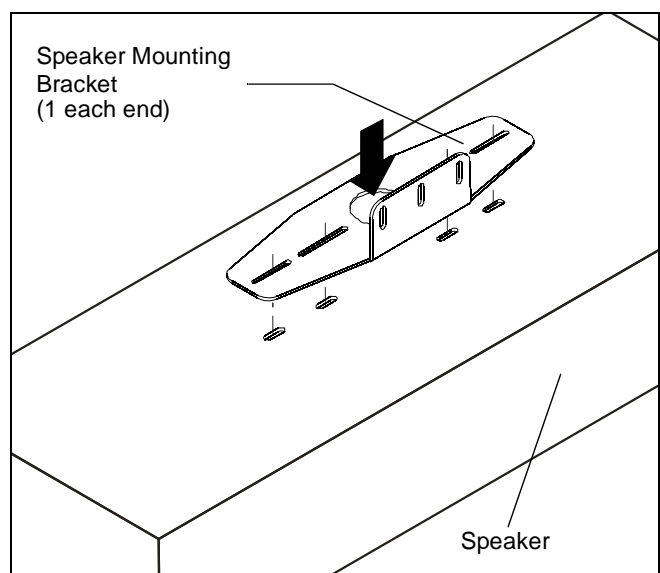
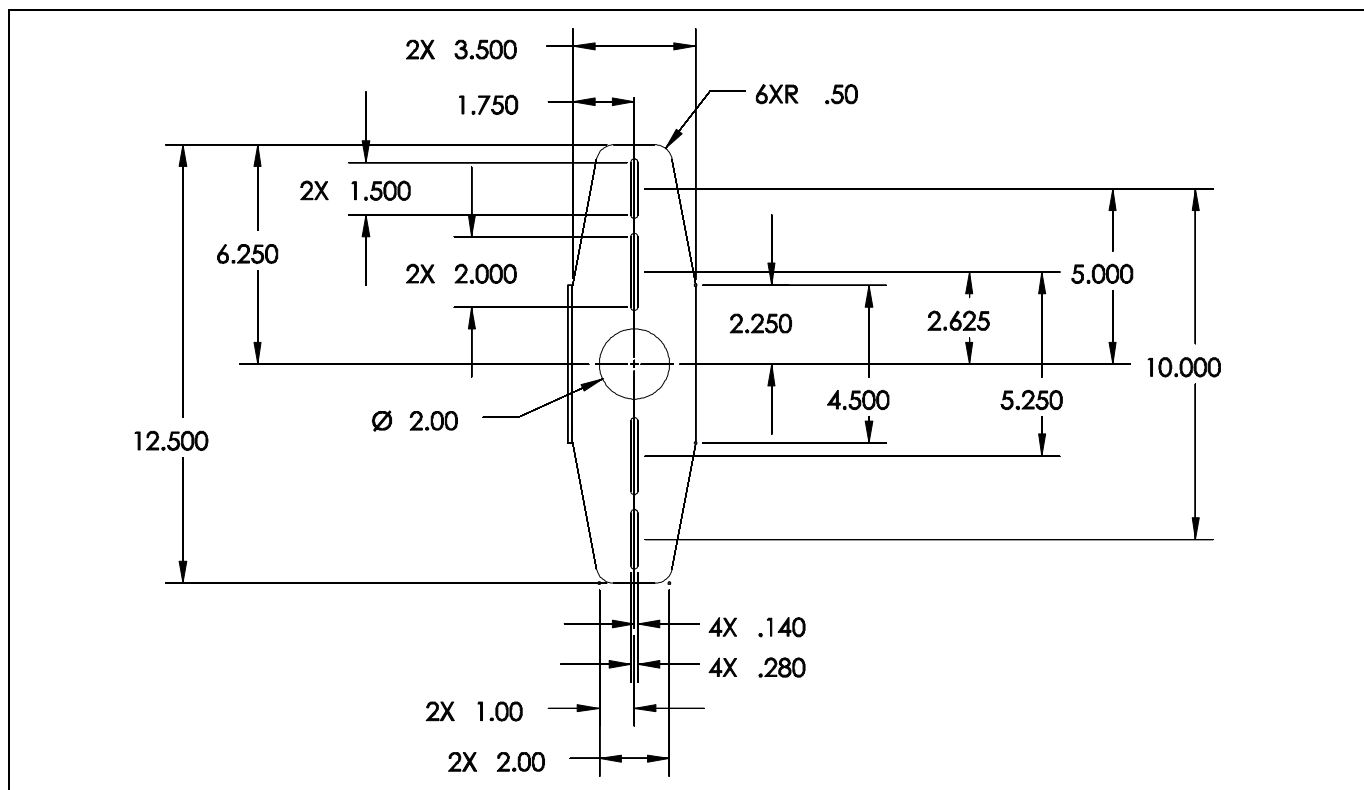

Figure 7
Figure 8
3. Install left and right speaker mounting brackets to speakers using the installation instructions provided with the speakers and the dimensional drawing below. (See Figure 7 and Figure 8)